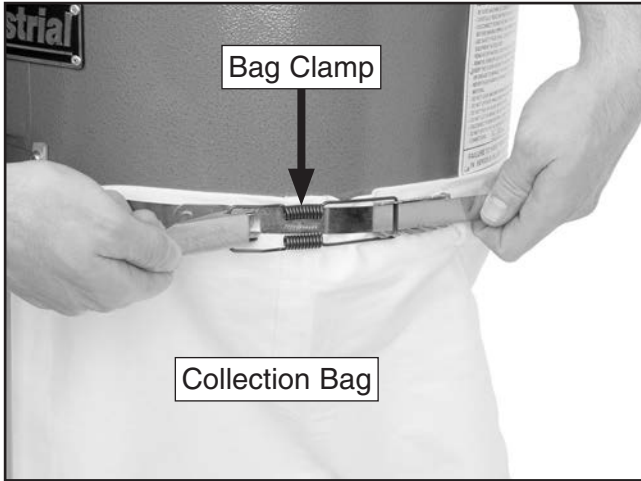

Figure 14. Example of securing collection bag with bag clamp.
11. Place clear collection bag over bottom edge of collector and secure with (1) bag clamp (see **Figure 14**).